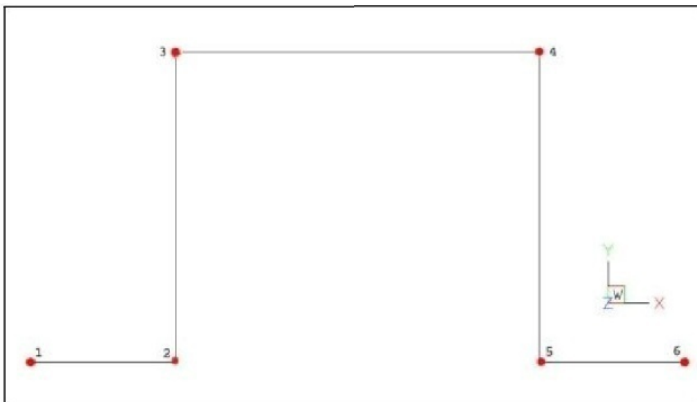

Fig. 70 – the path of the walls contour
- The picture below presents the path for walls (Fig. 70); legend: 1 – start point of the path, 2, 3, 4, 5 – points in consequent corners of the room, 6 – the final point of the path;